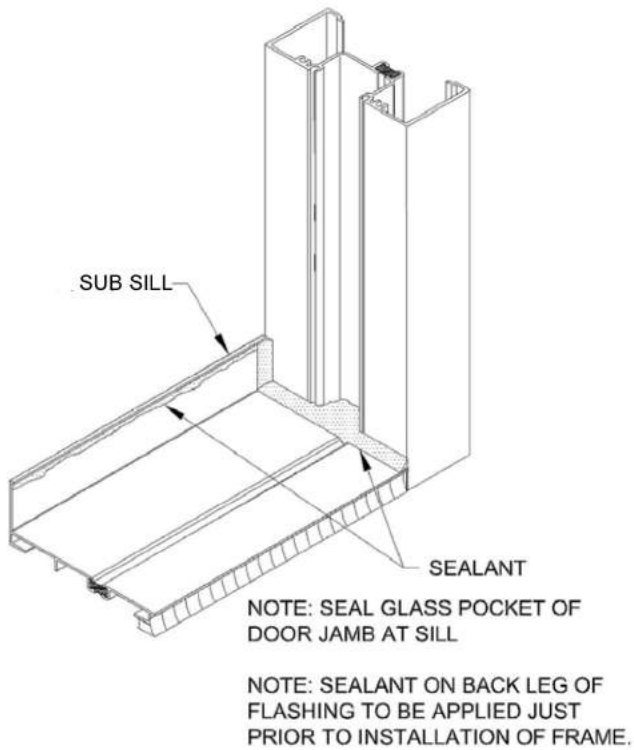

**Fig. 1A**
1. Cut Sub Sill SF1833 to overall frame width plus **1/4"**. At both sides of entrance locations, cut sub sill **1/8"** longer than frame width. End Dams must be fastened and applied with sealant to each end of sub sill before installation of sill. Apply sealant to end dam contact areas. Use Screws, #12 x 1" PPH T-A-Z-P (from Alloy Fastener), Part #121PPZ to firmly secure End Dams. See Figure 1a and 2b.